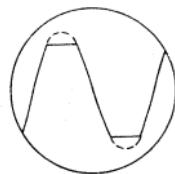

Fig. 21 Waveform when the dummy load resistor is  $2.7\Omega$
4. At this condition, set dummy load resistor switch to " $2.7\Omega$ " position and turn operating point adjustment semi-fixed resistor VR-1 counter-clockwise to the point at which the output waveform is erased and from this point, turn clockwise again about  $20^\circ$  from erased point. With a  $2.7\Omega$  dummy load resistor, the waveform will appear as shown in Fig. 21.
6. In the check outlined in item 5), if EPC did not function, try shorting the various speaker output terminals. Check to confirm that no matter which terminal is shorted, EPC functions. When making this check, even if a single waveform is not erased, turn EPC operating point adjustment semi-fixed resistor slightly further clockwise.